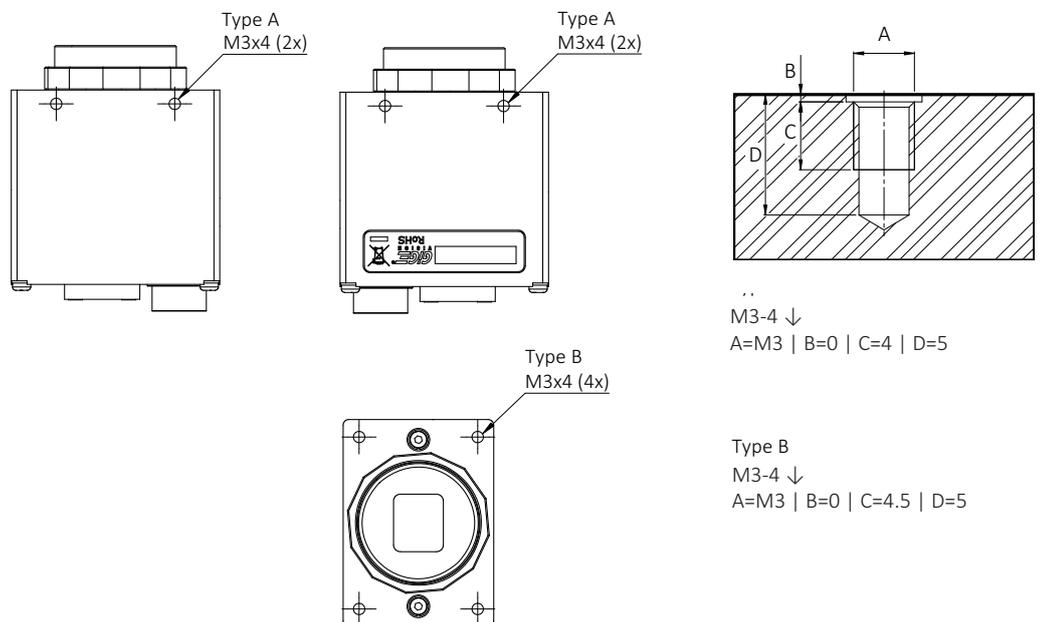

Figure 2: M3 and M2 mounting threads on Standard and Extended Format cameras
1. As shown in Figure 2, mount the camera to the base using suitable M3 screws at 0.69 Nm maximum torque for a thread engagement (C) of 4 mm between screws and mounting threads.